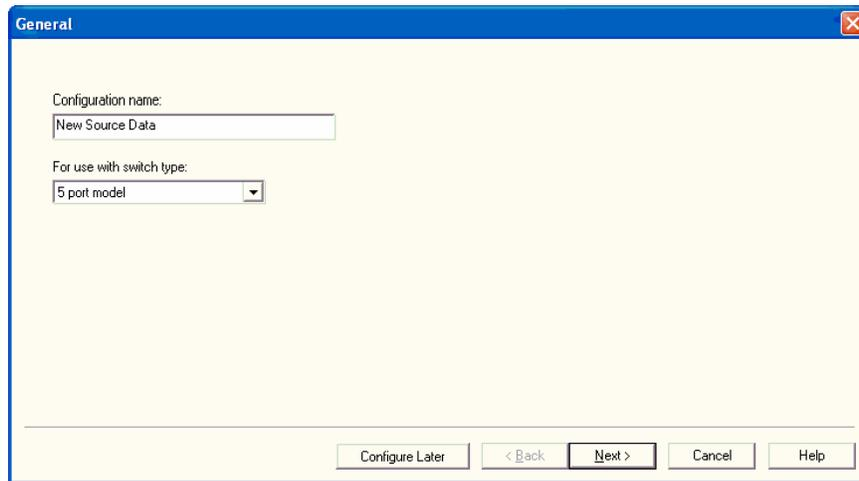

Figure 4.6
- The new source station will need a new configuration to enable a ring using ports 3 and 4. The integrator clicks **Add New Base Configuration** and fills out the configuration name and then selects the switch type, as shown in Figure 4.6.